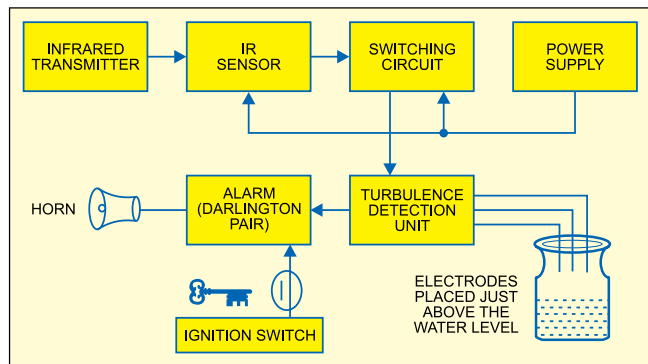

Fig. 1: Block diagram of the two-wheeler security system
The two-wheeler security system (Fig. 1) comprises a handheld infrared (IR) transmitter, IR receiver/sensor, switching circuit, power supply, turbulence detection unit, alarm and ignition switch. You have to keep the handheld